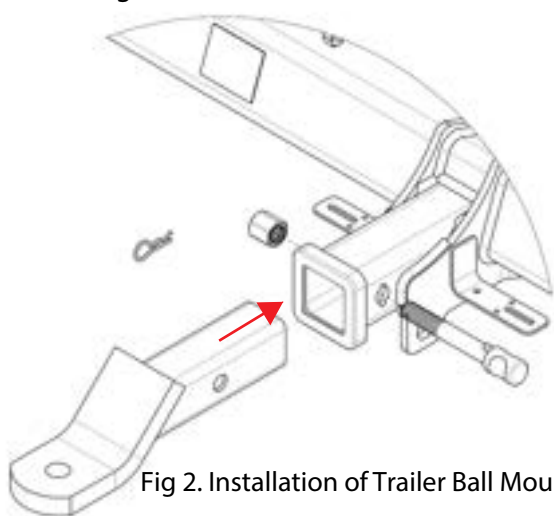

Fig 2. Installation of Trailer Ball Mount
4. Mark out then cut underside of bumper as shown in **figure 1** if fitting to Hyundai Tucson or **figure 2** if fitting to Kia Sportage.
Insert Trailer Ball Mount (TBM) into towbar HITCHBOX, aligning hole in TBM SHANK with hole in HITCHBOX (Fig 2).